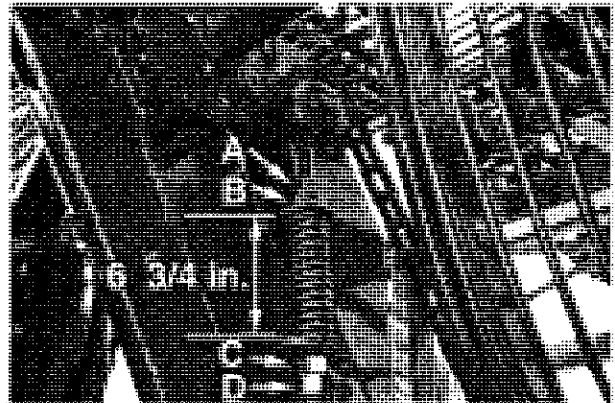

Figure 44. Wheel Elevator Drive
To adjust the tension, loosen the jam nut (Figure 44-A) and turn the adjusting nut (B). Set the dampener spring length to 6-3/4" by loosening the jam nut (D) and turning the adjusting nut (C). This is factory set and should not need to be changed.
Operate the wheel elevator until the chain connector link is positioned near the drive shaft. Loosen the jam nut (Figure 44-A) and turn the adjusting nut (Figure 44-B) until the maximum chain slack is obtained. Disconnect the chain.
NOTE: It is very important that the drive sprocket and idler sprocket (see Figure 44) be in alignment with each other and centered on the slots in the wheel. Make sure they are properly adjusted.